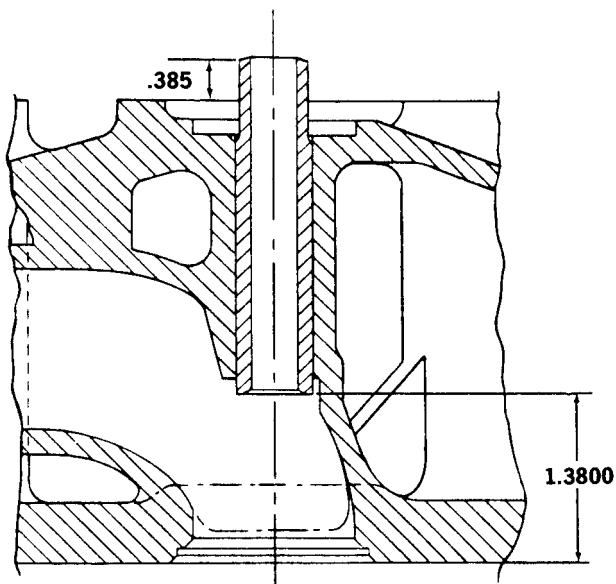

Figure 3-18. Valve Guide Installation
a. If valve guides (3, figure 3-15) are excessively worn and require replacing, it must be done before any refinishing is done on valve seats. This will insure that seat being finished is square with respect to new guide. To drive out guides, use drift with 5/8-inch diameter and 3/8-inch diameter pilot. Drive in new guides so that dimension from lower edge of valve guide to gasket face of cylinder head is 1.3800 inches. See figure 3-18. After new guides are driven in, ream inside diameter to correct any squeezing-in or any distortion. Ream exhaust valve guides to 0.3750 to 0.3760 inch. Ream intake valve guide to 0.3740 to 0.3750 inch.
b. If valve seats are pitted or if new valve guides (3) have been installed, seats must be refinished. Intake valve seats are finished on a 30-degree angle and exhaust valve seats are finished on a 45-degree angle. Use a vibrating angle grinder-type reseating tool with a 3/8-inch diameter pilot. Lightly lubricate and install pilot into valve guide bore. Lower grinder head over pilot shank until stone just clears valve seat. Turn on power and